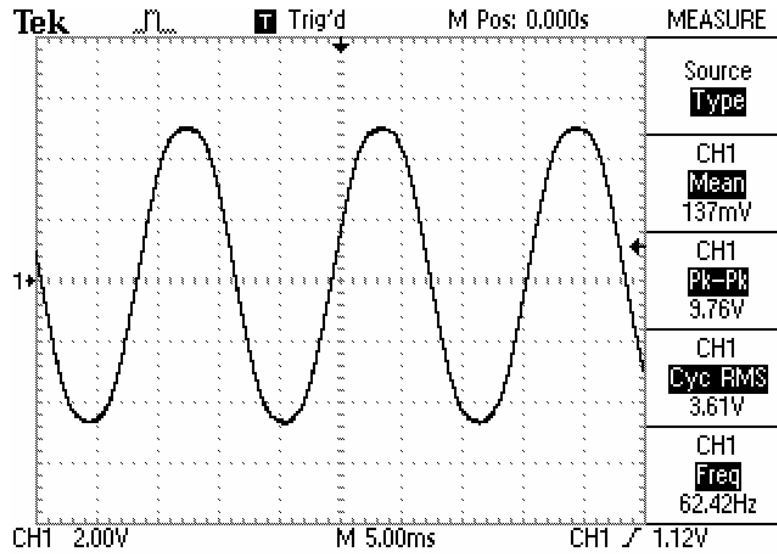

Figure 10: Oscilloscope Display of 60 Hz Sine Wave
10. [] Gradually turn the A&D AMPLITUDE knob clockwise and verify that the amplitude increases up to approximately 10V Pk-Pk at 60 Hz as shown in Figure 10.